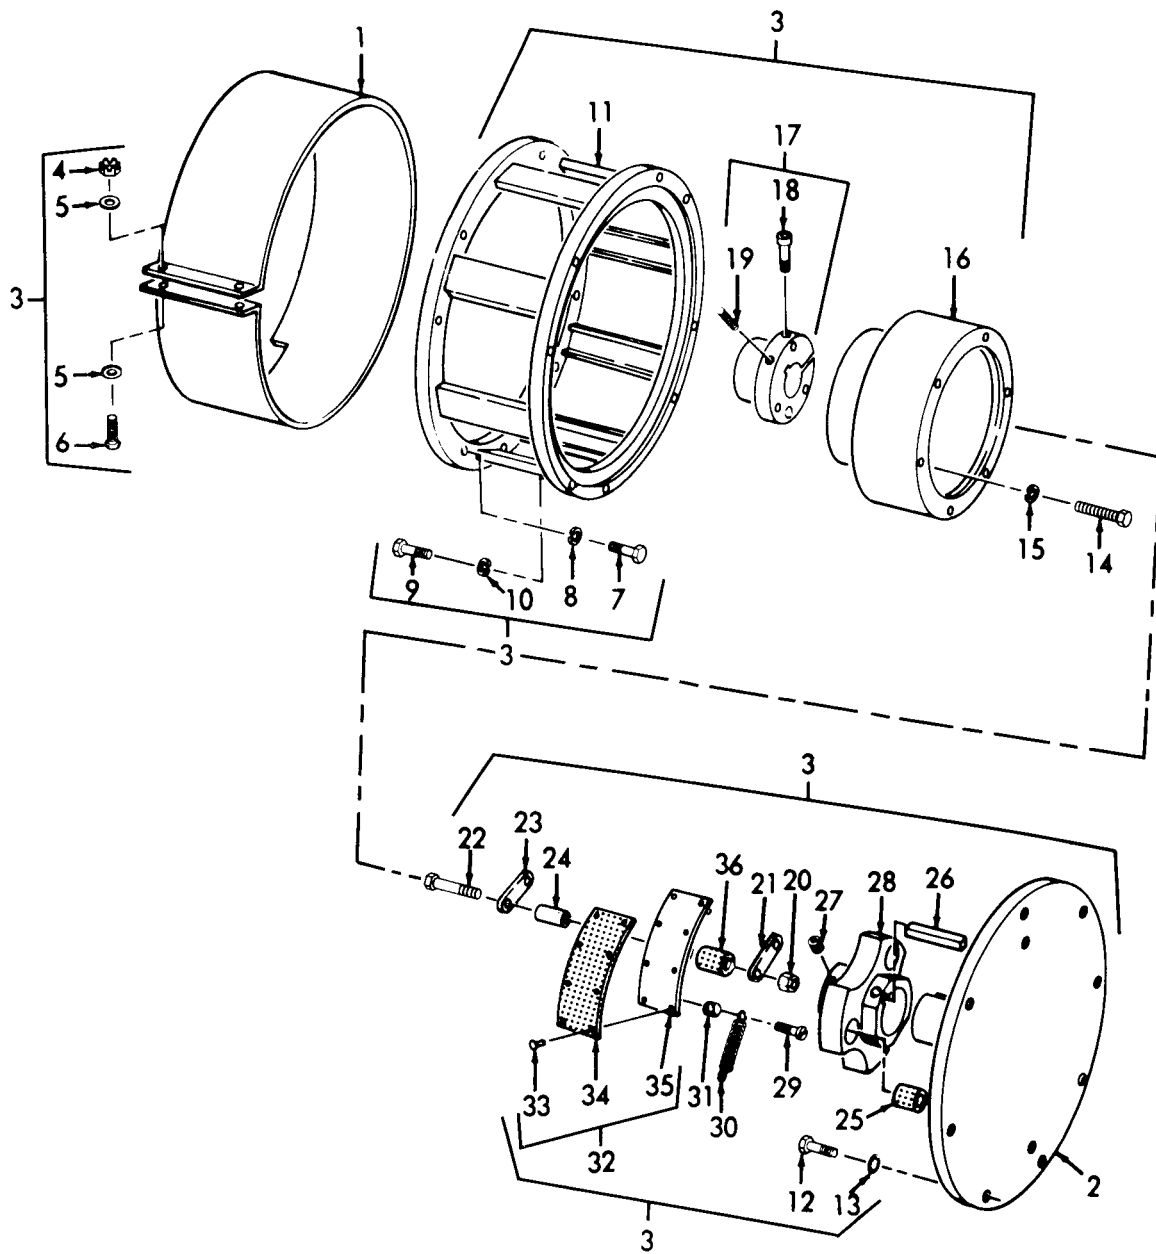
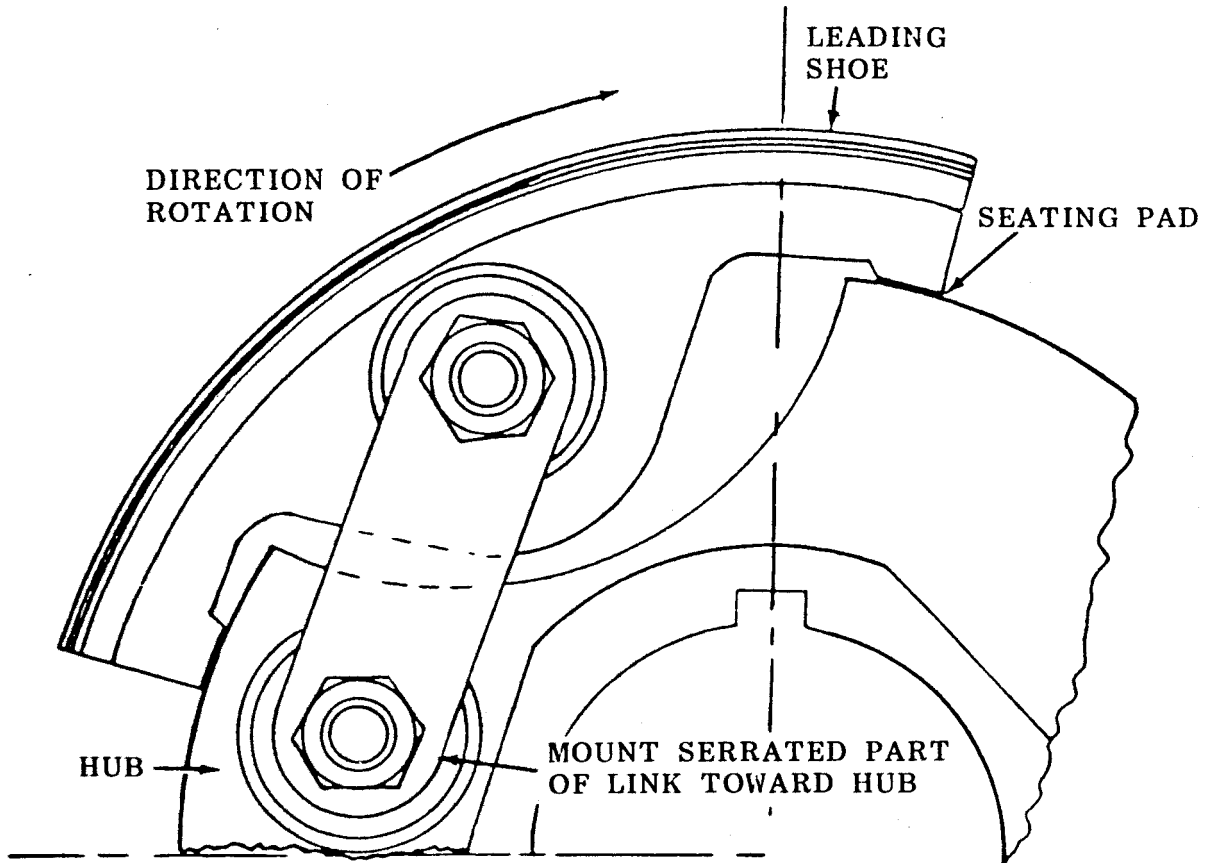

Figure 12-13. Clutch and Cover.
Figure 12-14. Clutch Assembly, Removal, Disassembly, Reassembly and Installation.
## LEGEND FOR FIGURE 12-13:
- (1) Remove the engine (para. 5-2).
- (2) Remove eight screws that secure the clutch drive plate to the flywheel, and remove the clutch drive plate.
- (3) Loosen setscrew and remove drive hub (17, figure 12-13) from clutch drive plate. Remove key.
- (4) Remove safety wire from twelve studs (29) and remove the six springs (30).
- (5) Remove six nuts (22) and remove the six bolts (20) and the six links (21 and 23).
- (6) Remove the six spacers (24) and remove the six rubber bushings (36).
- (7) Remove twenty-four rivets (33) that secure the three linings (34) to the three shoes (35).
- (8) Loosen setscrew in hub (19) and remove the clutch housing (3) with the hub (16) attached.
- (9) Remove the three screws (14) that secure the housing (3) to the hub (16). Two withdrawal holes with 3/8-16 thread 180° apart are located in the housing to push the hub (16) out of the housing.
- (1) Reassemble and install in reverse order.
- (2) Install links on the hub loosely with the serrated part of the links facing the hub. Refer to figure 12-14.
- (3) Install the links in the direction of rotation as shown in figure 12-14.
- (4) Press each shoe hard inward with the seating pads against the hub; torque hub and show bolts to 25 lb-ft.
- (5) Torque the three screws (14, figure 12-13) to 30 lb-ft.